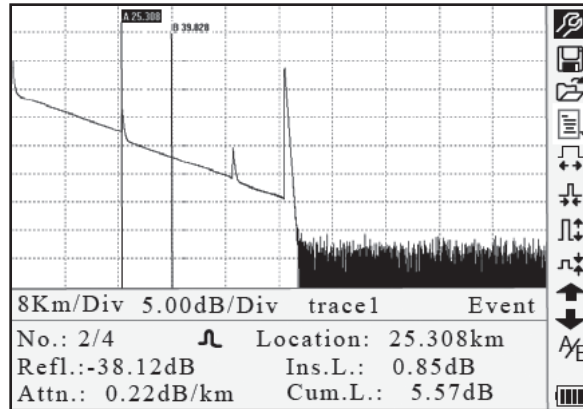
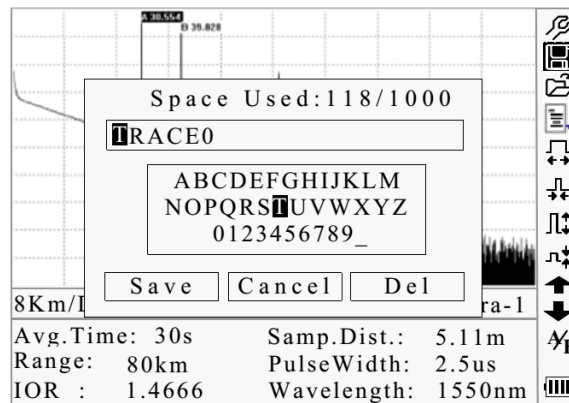
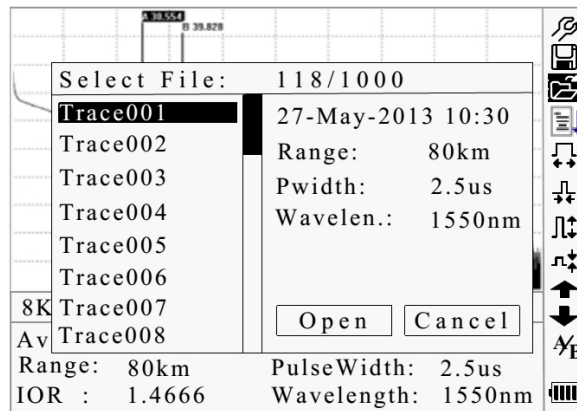

Figure 4-4. Trace Measurement
Figure 4-6. Save a Trace
Figure 4-7. Browse Saved Traces
Note: After a certain period of time, the trace displays on the GUI. The trace in the figure below is a trace during measurement, which will be refreshed for every certain period of time to demonstrate the whole process in realtime. But at the end of measurement the trace will be complete, as shown in Figure 4-4.
Under GUI (Figure 4-4) press **↩** and the items in the information window will display in this order: measurement parameters → analysis information → events list → marker A/B information → fiber information → measurement parameters.
Under GUI (Figure 4-4) press **↩** until the events list information appears in the information window.
Under GUI (Figure 4-4) use **▲** and **▼** to highlight **A/B**, and then press **Enter** to switch between marker A/B.
Under GUI (Figure 4-4) press **↩** to switch the information window to marker A/B information.
1. Under GUI (Figure 4-4) use **▲** and **▼** to highlight **↔**, and then press **Enter** to zoom out the trace horizontally.
Under GUI (Figure 4-4) use **▲** and **▼** to highlight **↔**, and then press **Enter** to zoom in the trace horizontally.
1. Under GUI (Figure 4-4) use ▲ and ▼ to highlight $\updownarrow$, and then press **Enter** to zoom out the trace vertically.
Under GUI (Figure 4-4) use ▲ and ▼ to highlight $\updownarrow$, and then press **Enter** to zoom in the trace vertically.
1. Under GUI (Figure 4-4) use ▲ and ▼ to highlight , and then press **Enter** to enter (Figure 4-6).
1. Under GUI (Figure 4-4) use ▲ and ▼ to highlight , and then press **Enter** to confirm (Figure 4-7).